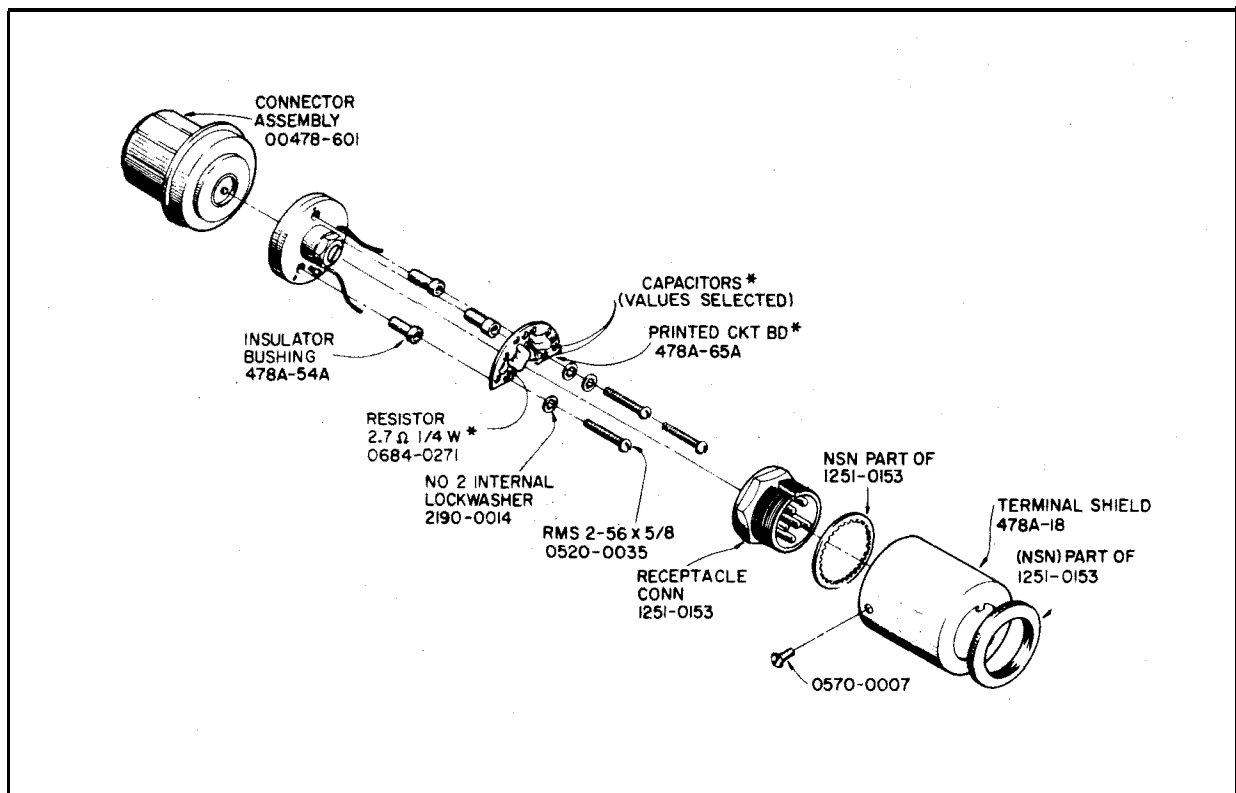

Figure 9. Model 478A Thermistor Mount Assembly
a. Remove three 2-56 x 3.16 screws holding terminal shield (Figure 9). Move terminal shield aside.